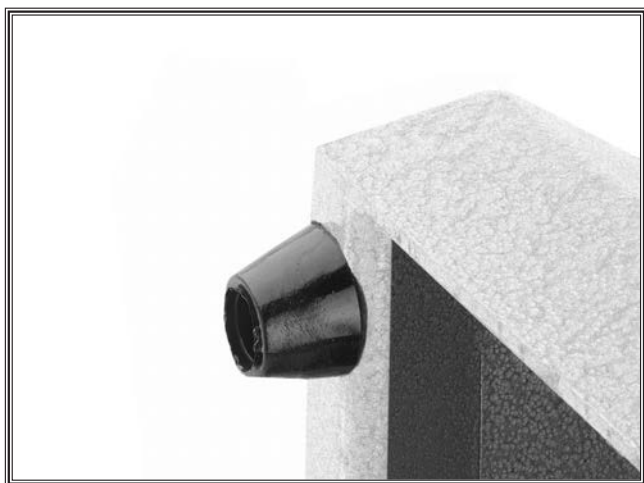

Figure 11. One rubber foot installed.
2. Install the 4 feet using the supplied $\frac{5}{16}$ "-18 x $\frac{1}{2}$ " bolts and the $\frac{1}{4}$ " nuts. See Figure 11.